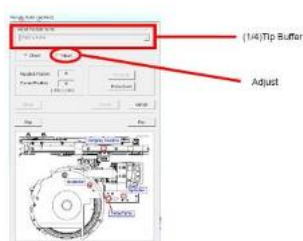

Figure 4 SSW window (Tip Buffer)
- Click “**Adjust**” (Figure 4)